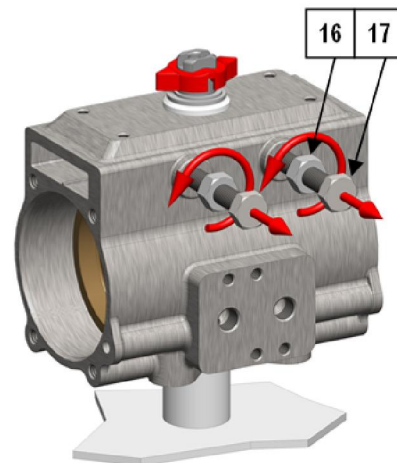

Fig.8
7. Loosen nuts (16) and unscrew completely screws (17) see Fig. 8 ;